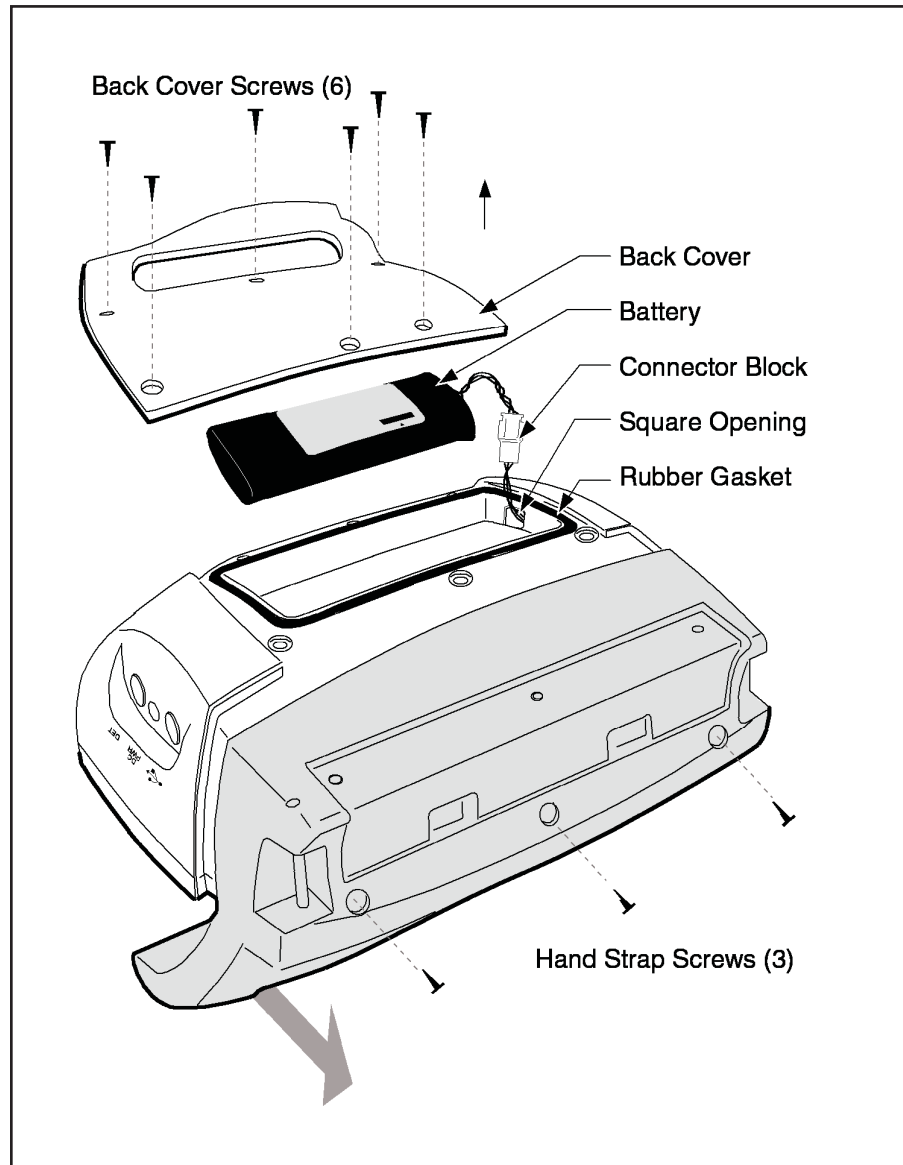

Figure 117 Accessing the Battery Compartment
5. Loosen the three screws that hold the probe mounting piece to the InSpector and pull the mounting piece about 1/8 inch (3 mm) away from the InSpector (Figure 117).